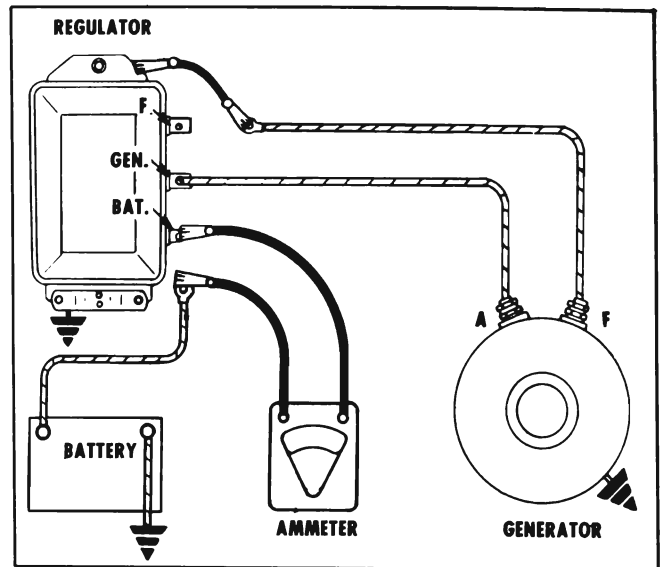

Figure 10-10—Testing Generator Output
2. Disconnect field lead from generator regulator "F" terminal and connect a jumper between this lead and ground. See Figure 10-10.
3. Disconnect battery lead from fuse at regulator "Bat" terminal. Connect test ammeter red lead to "Bat" terminal and ammeter black lead to battery lead. See Figure 10-10.